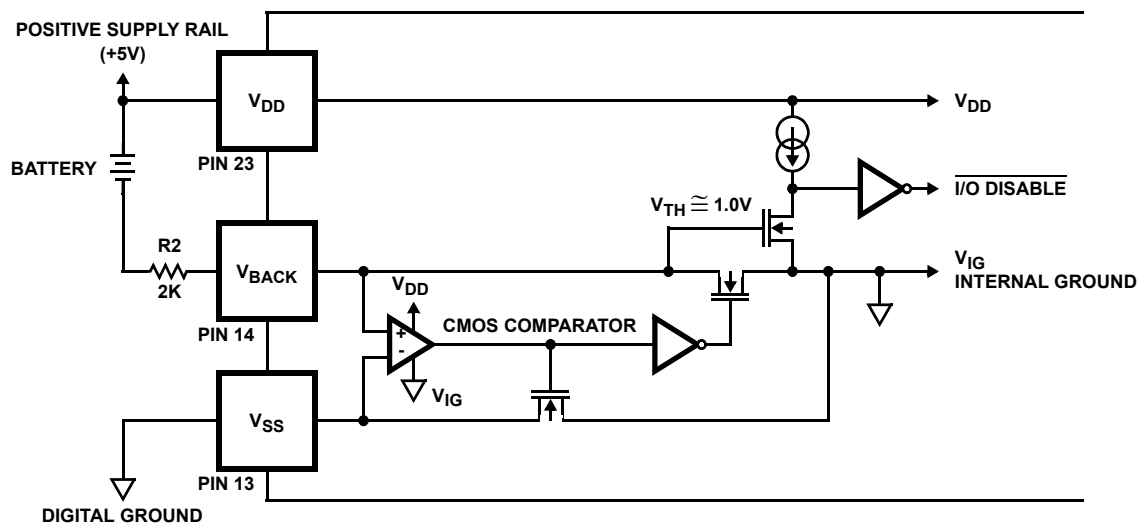

FIGURE 6. SIMPLIFIED ICM7170 BATTERY BACKUP CIRCUIT
The ICM7170 contains an on-chip power down detector that eliminates the need for external components to support the battery-backup switchover function, as shown in Figure 6. Whenever the voltage from the V_{SS} pin to the V_{BACKUP} pin is less than approximately 1.0V (the V_{TH} of the N-channel MOSFET), the data bus I/O buffers in the ICM7170 are automatically disabled and the chip cannot be read or written to. This prevents random data from the microprocessor being written to the clock registers as the power supply is going down.
The new load configuration (Figure 6) allows these two conditions to be met independently. The two load capacitors, C1 and C2, provide a fixed load to the oscillator and crystal. C3 adjusts the frequency that the circuit resonates at by reducing the effective value of the crystal's motional capacitance, C0. This minute adjustment does not appreciably change the load of the overall system, therefore, stability is no longer affected by tuning. Typical values for these capacitors are shown in Table 5. C1 and C2 must always be greater than twice the crystal's recommended load capacitance in order for C3 to be able to trim the frequency. Some experimentation may be necessary to determine the ideal values of C1 and C2 for a particular crystal.
4. **EXTERNAL BATTERY BACKUP** - The ICM7170 may be placed on the same power supply as battery-backed up RAM by keeping the ICM7170 in its operational state and having an external circuit switch between system and backup power for the ICM7170 and the RAM. In this case V_{BACKUP} should be pulled up to V_{DD} through a 2K resistor. Although the ICM7170 is always "on" in this configuration, its current consumption will typically be less than a microamp greater than that of standby operation at the same supply voltage (See Note 9). Proper consideration must be given to disabling the ICM7170s and the RAMs I/O before system power is removed. This is important because many microprocessors can generate spurious write signals when their supply falls below their specified operating voltage limits. $\overline{NANDing} CS$ (or \overline{WR}) with a $\overline{POWERGOOD}$ signal will create a \overline{CS} (or \overline{WR}) that is only valid when system power is within specifications. The $\overline{POWERGOOD}$ signal should be generated by an accurate supply monitor such as the ICL7665 under/over voltage detector. An alternate method of disabling the ICM7170's I/O is to pull V_{BACKUP} down to under a volt above V_{SS} ($V_{SS} < V_{BACKUP} < 1.0V$). This will cause the ICM7170 to internally disable all I/O. Do not allow V_{BACKUP} to equal V_{SS} , since this could cause oscillation of the battery backup comparator (See Figure 6). $V_{BACKUP} = V_{SS} + 0.5V$ will disable the I/O and provide enough overdrive for the comparator.